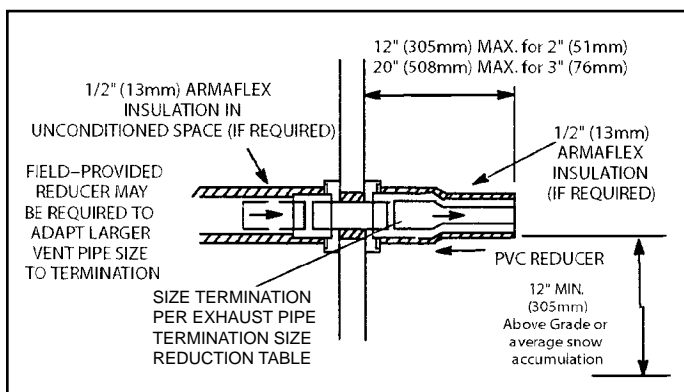

Figure 39. Non-Direct Vent Field Supplied Wall Termination
2. On field supplied terminations for side wall exit, exhaust piping may extend a maximum of 12 inches (305 mm) for 2" PVC and 20" (508 mm) for 3" PVC beyond the outside wall. See Figure 39.